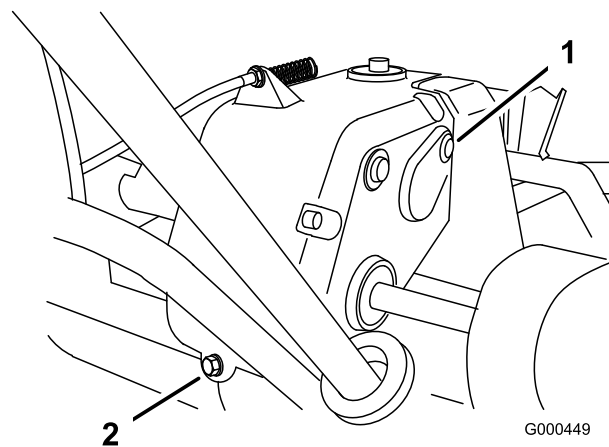

Figure 29
- Remove the check/fill plug from the right-hand side of the transmission (Figure 29).